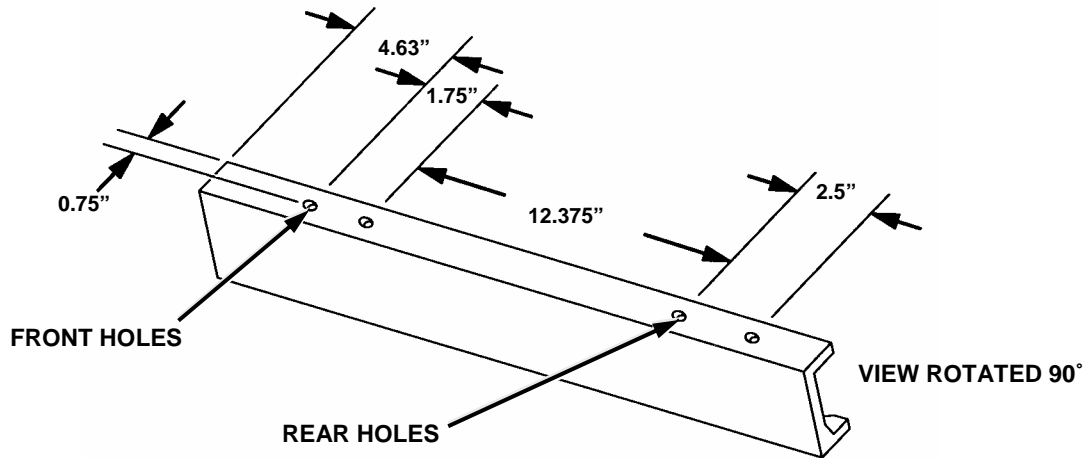

Figure 2-15. Right Side Floor Support Holes.
6. Drill four 0.375 inch (9.525 mm) diameter holes (Figure 2-15) in right side floor support.